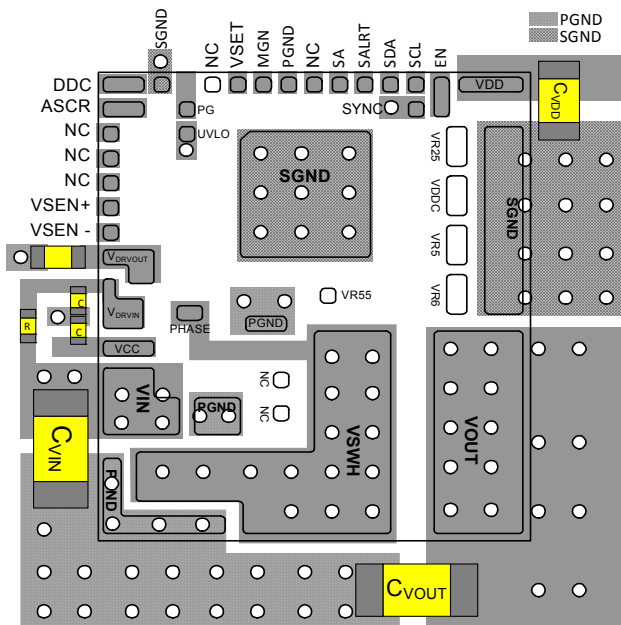

FIGURE 29. RECOMMENDED LAYOUT - TOP PCB LAYER
- For $V_{\text{DD}} > 6\text{V}$, the recommended PCB layout is shown in Figure 29. Leave V25, V_{DDC} , VR5, and VR6 as “No Connect (NC)”.